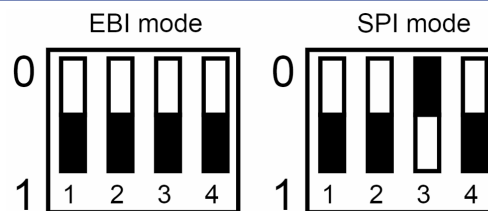

Figure 3. LCD Module Communication Interface Setting
- Figure 3. LCD Module Communication Interface Setting 7
Before adjusting the communication interface using SW1, refer to the following descriptions and figure 3 for the LCD module setting details.